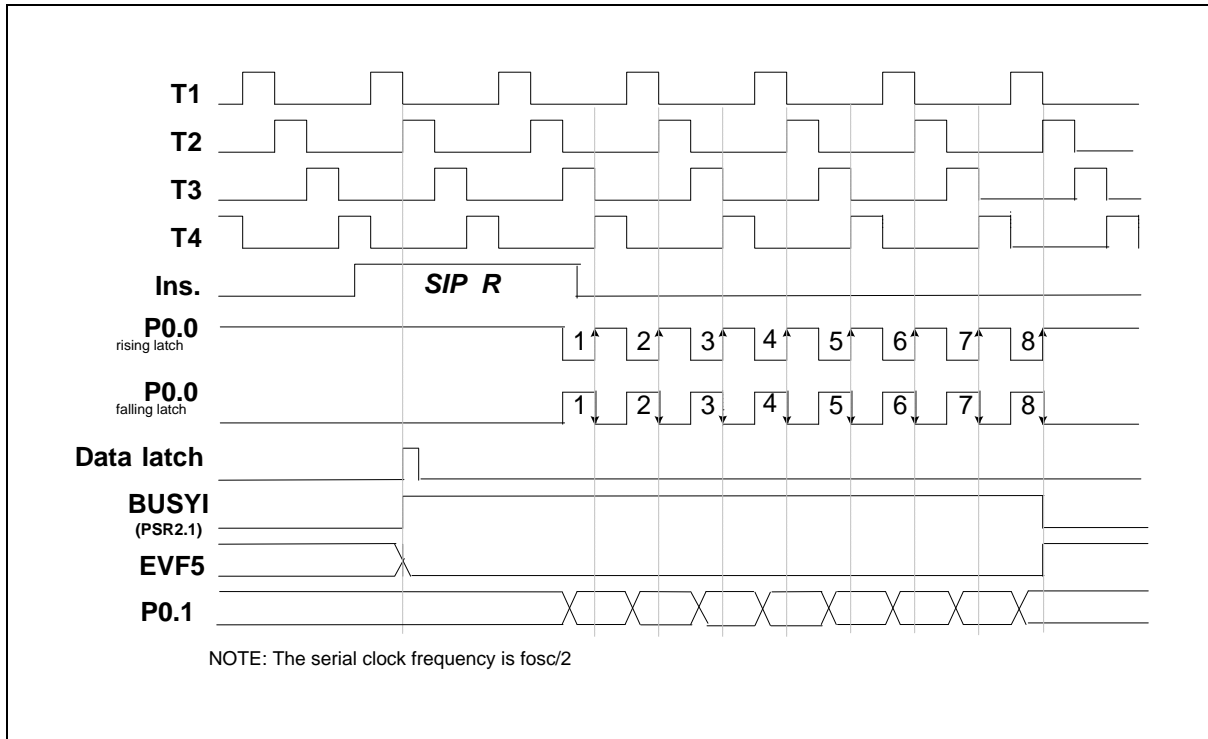

Figure 5-12 Timing of the Serial Input Function (SIP R)
- (1) **When in the first time the SIP R instruction is executed, the data will be loaded to the ACC and RAM from the serial input buffer. But this data is not meaningful, it is used to enable serial port.** There are two methods to get the serial data, one is interrupt and the other is polling. When enable the serial input, the bit 1 of port status register 2 (PRS2) will automatically be set to "1" (BUSY₁ = 1). Then the P0.0 pin will send out 8 clocks or accept 8 clocks from external device and the data from the P0.1 pin will be loaded to SIB buffer at the rising or falling edge of the P0.0 pin. After the 8 clocks have been sent, BUSY₁ will be reset to "0" and EVF.5 will be set to "1." At this time, if IEF.5 has been set (IEF.5 = 1), an interrupt is executed then the SIP R instruction can get the correct data from the serial input buffer (SIB), **low nibble of SIB moves to ACC register and the high nibble moves to RAM**; if HEF.5 has been set (HEF.5 = 1), the hold state is terminated. The polling method is to check the status of PSR2.1 (BUSY₁) to know whether the serial input process is completed or not. If a serial input process is not completed, but the SIP R instruction is executed again, the data will be lost. The timing is shown in Figure 5-12.